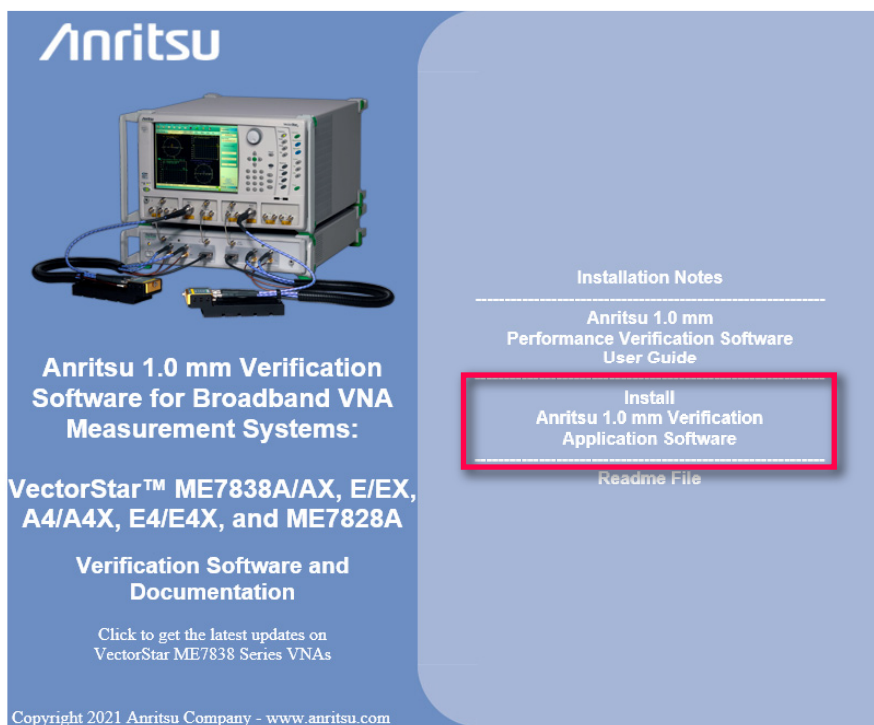

Figure 3-1. PVS Installation and Documentation Screen
10. The installer adds all required files and makes the necessary registry updates on the PC Controller. When done, the navigation page (Figure 3-1) reappears.